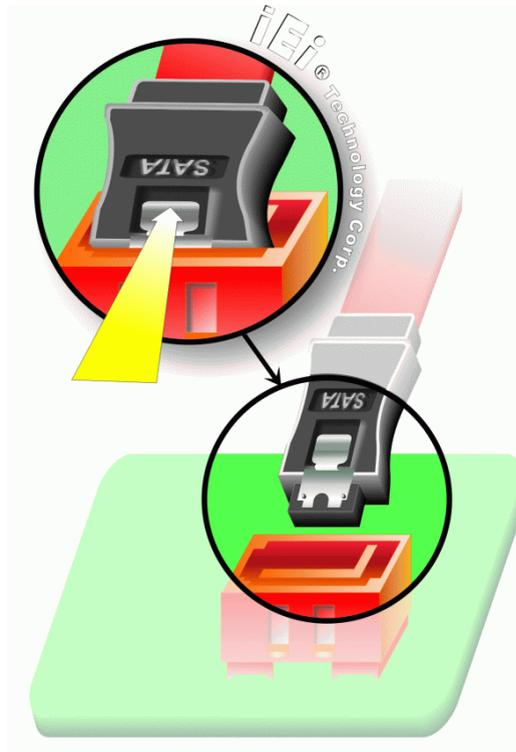

Figure 5-9: SATA Drive Cable Connection
Step 2: Insert the cable connector. Press the clip on the connector at the end of the SATA cable and insert the cable connector into the onboard SATA drive connector. See **Figure 5-9**.